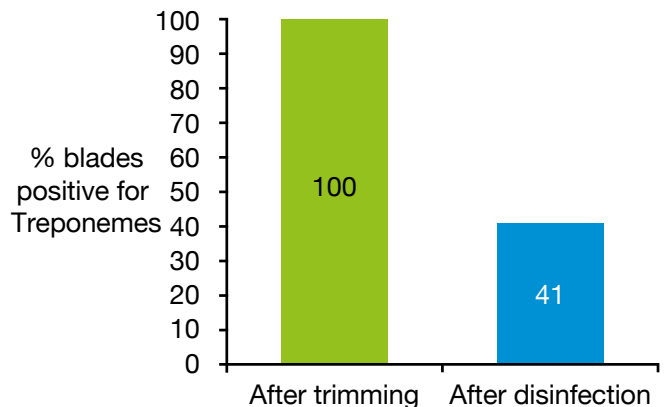

Figure 16. The percentage of trimming blades testing positive for DD Treponeme after trimming and after disinfection
- After trimming, DD was present on 100% of cattle blades4. This was reduced to 41% after disinfection (Figure 16)